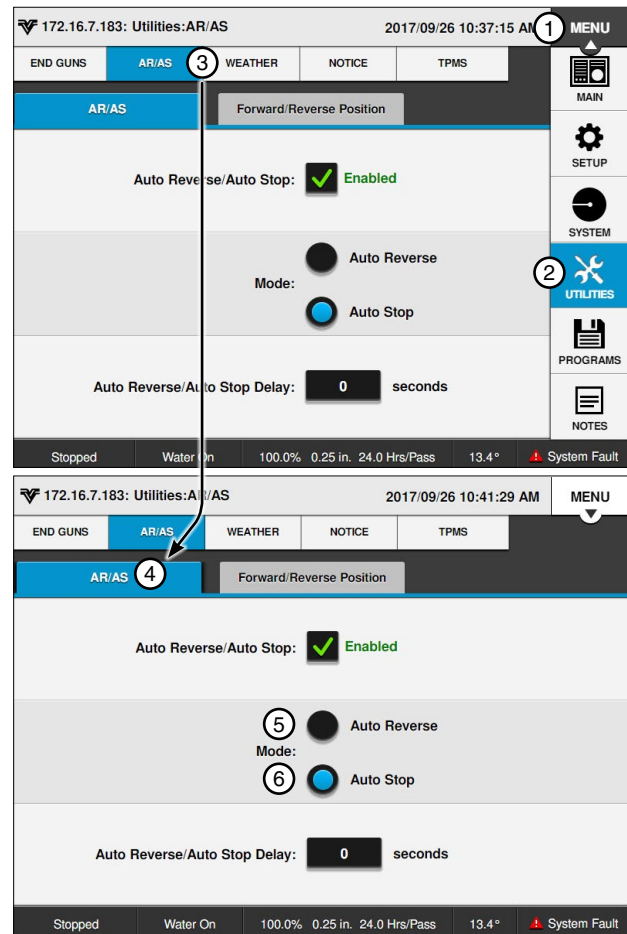

Figure 68-1 1. Menu
Auto Reverse Auto Stop (AR/AS) is used to enable Auto Reverse/Auto Stop, set the delay time when a machine is equipped with a drive-unit-mounted end-of-field stop/auto reverse, and to set points at which the machine will switch directions. Refer to Figure 68-1.
- **Auto Reverse;** If AR/AS is on and the Auto Reverse/Auto Stop option is set to Auto Reverse, when the actuator arm is tripped or when the forward/reverse boundary is reached the machine changes direction, disables the percent timer, waits for the set AR/AS delay time, and then enables the percent timer and continues running. Refer to Figure to Figure 68-1.
- **Auto Stop;** If AR/AS is on and the Auto Reverse/Auto Stop option is set to Auto Stop, when the actuator arm is tripped or when the forward/reverse boundary is reached the machine changes directions, disables the percent timer, waits for the set AR/AS delay time, and then shuts down. Refer to Figure 68-1.